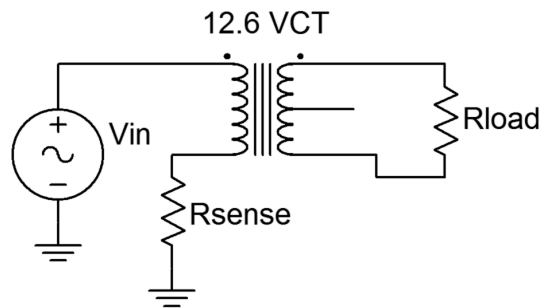

Figure 2
3. Build the circuit of Figure 2 using $R_{\text{sense}} = 22\ \Omega$, $R_{\text{load}} = 10\ \Omega$ and $V_{\text{in}} = 5$ volt peak sine at 60 Hz. Place one scope probe across the load and the other across R_{sense} . Record the peak amplitudes in Table 2 and capture an image of the scope display.